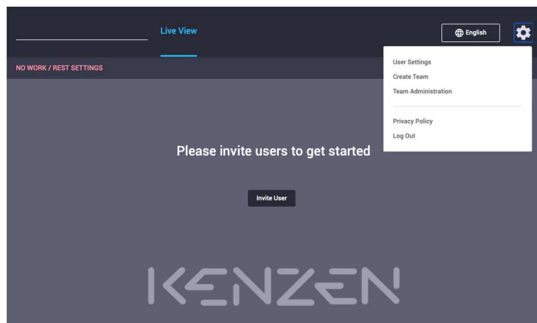

Figure 36: Create Team
3. Select the gears setting icon in the upper right corner and select **Create Team** (Figure 36).